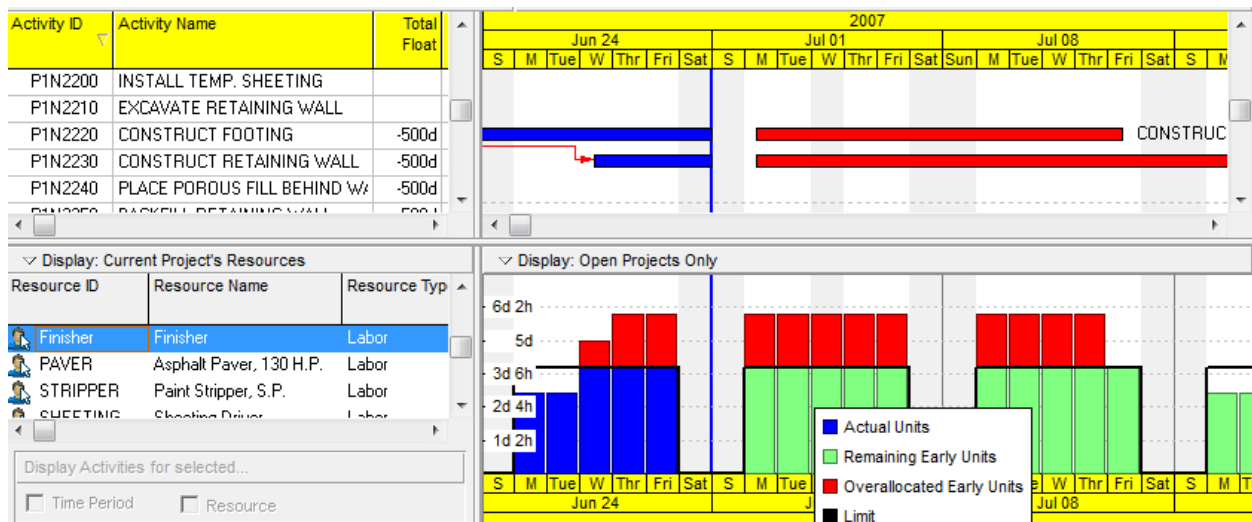
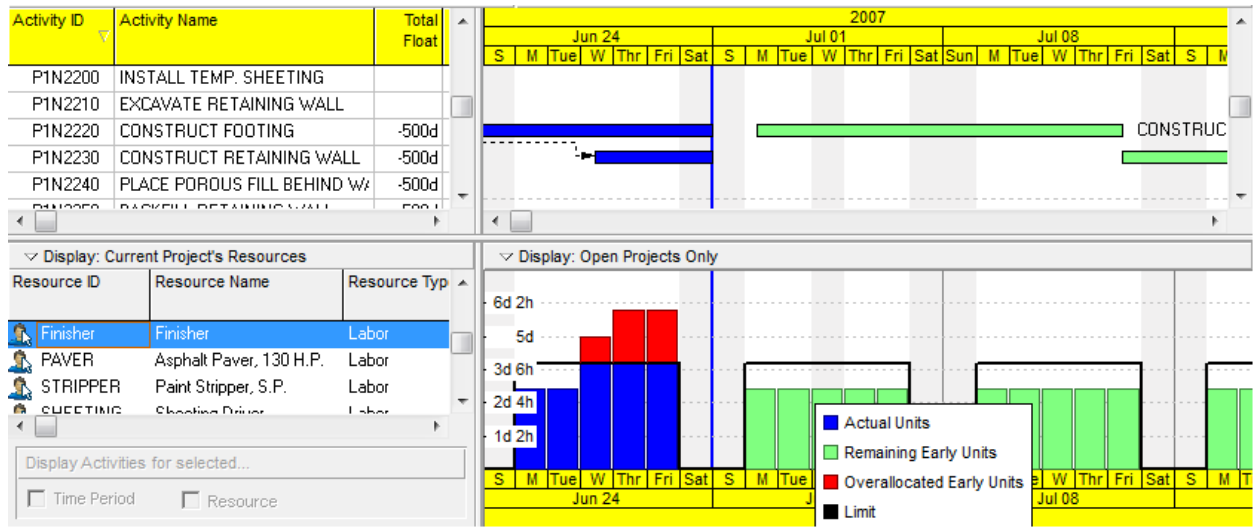

Figure 9, Resource Daily Use Histogram before Resource Leveling
Figure 13, Resource Daily Use Histogram after Resource Leveling
- What threshold or over-allocation would free the activity from delay? How far apart is the difference between required and maximum? An activity should not be delayed for exceeding the threshold by a trivial amount. Displaying a daily resource histogram will help make this analysis much easier to perform such as shown in Figure 9 below.[7]
Actual progress can also give insight as to the foreman's resource plan. Figure 9 above shows two activities sharing the same resource, "Finisher." The second activity, P1N2230 shows that it was started even though a shared resource is over the listed maximum. Resource leveling shown in Figure 13 below will halt progress in Activity P1N2230 until the resource in Activity P1N2220 is complete, delaying the project. While logical, delaying this activity now just because the status was taken is clearly not the intent of the supervising foreman. Active activities should not be halted simply because resource leveling was used.
As a side note, the keen observer will notice that the two activities in Figure 9 were on the longest path (bars in red) but are no longer on the longest path in Figure 13. The only difference is that resource leveling was accomplished. Also note that resource leveling did not change the float value of Activity P1N2230, even though it was delayed by 9 days.